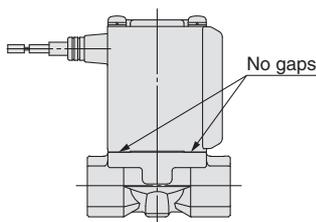
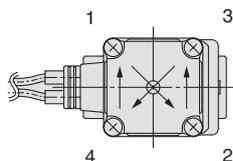

Fig.1
Fig.2
- 3) Push the coil assembly against the body and tighten the screws two or more rounds diagonally (Fig. 2) in the status that there are no gaps between the coil assembly and body (Fig. 1).
* After tightening the screws, make sure that there are no gaps between the coil and body (Fig. 1).